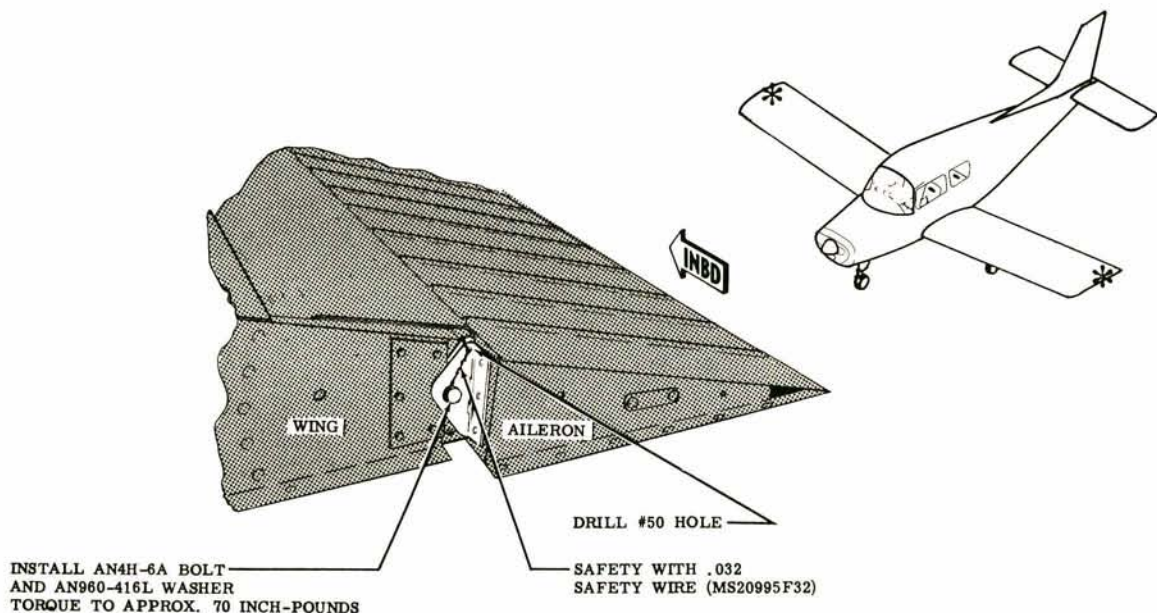

Figure 1. Outboard Aileron Hinge (LH Wing Shown with Wing Tip Removed)
SAFETYING OF OUTBOARD HINGE BOLTS ON AILERON. (See Figure 1.)
b. Drill a #50 hole in the outer segment of each aileron hinge at the approximate location shown in Figure 1 below.